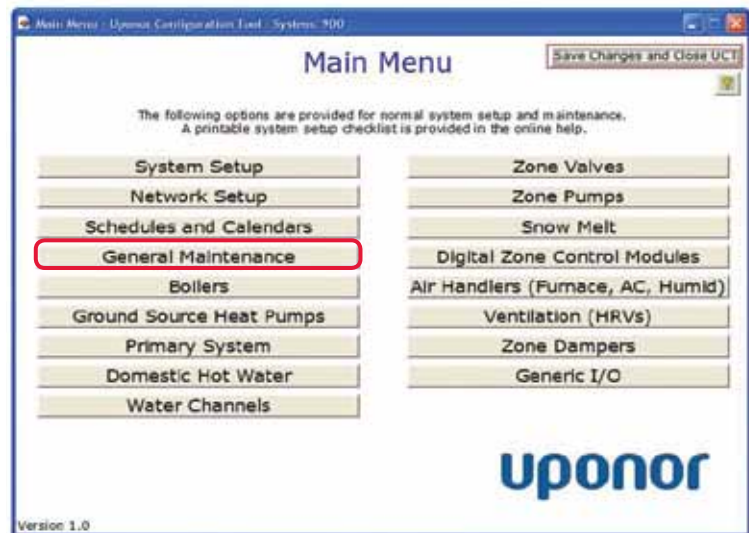
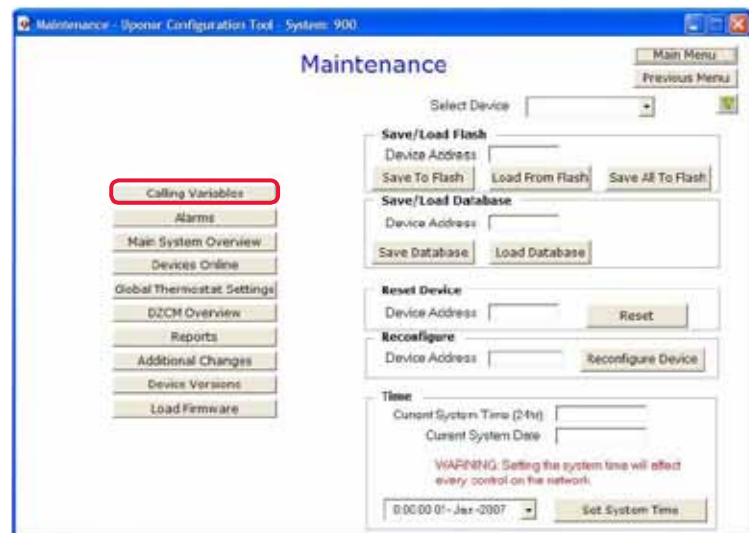

Figure 4.1-1: Main Menu Screen
Figure 4.1-2: Maintenance Screen
1. From the **Main Menu**, click the **General Maintenance** button shown in **Figure 4.1-1**. This displays the Maintenance Screen shown in **Figure 4.1-2**.